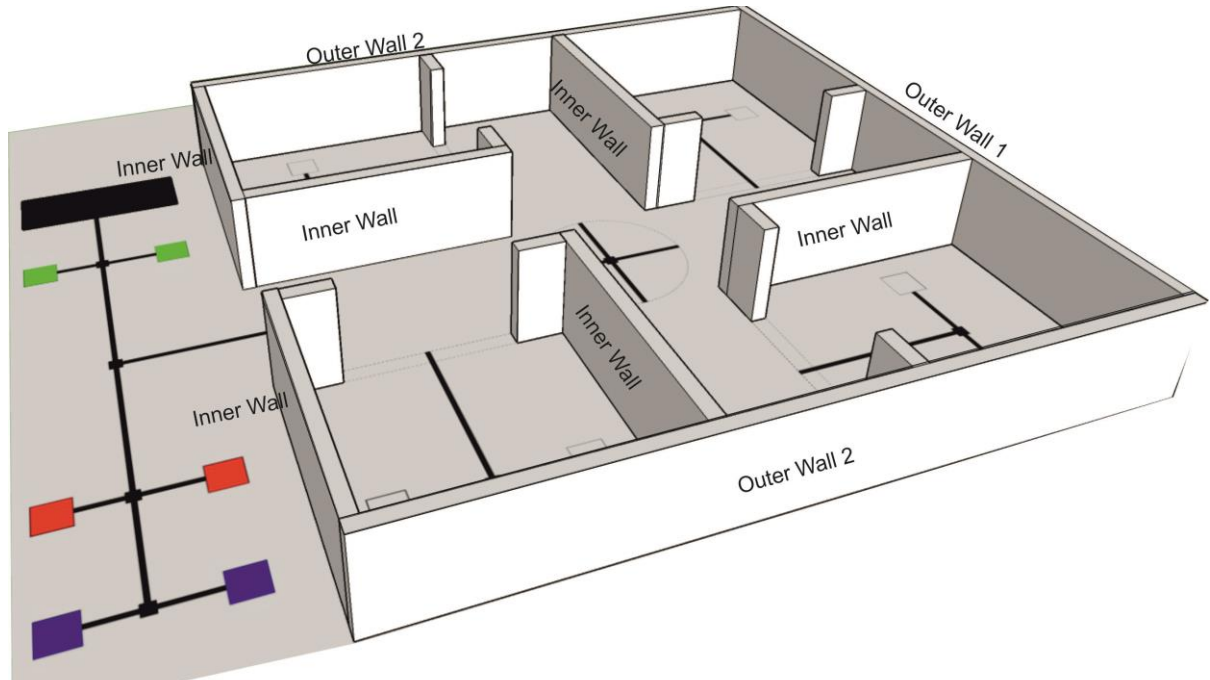

Figure 4: Wall Placement
These three walls are placed on the periphery of the hotel wing. These are fixed permanently to the flex (Refer to Figure 4).
- Stick the Outer Walls and Inner Walls permanently to the arena using double sided tape or any other suitable adhesives. After this step the arena should look like Figure 4.